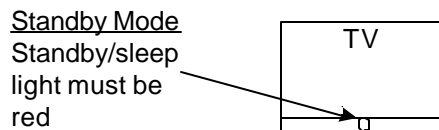

Figure 7-1
1. The TV must be in the Standby Mode as indicated by the front panel light. If this Standby light is OFF, plug the TV into AC, press the front panel Power button and then shut off the TV from the remote control. The Standby light should now be lit while the TV is OFF. Ref. Figure 7-1.